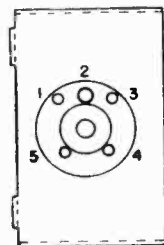

Fig. 1. Vibrator Socket
- (d) Open the condenser plates until they stop solidly against the beveled edge of the block as shown in Fig. 1.